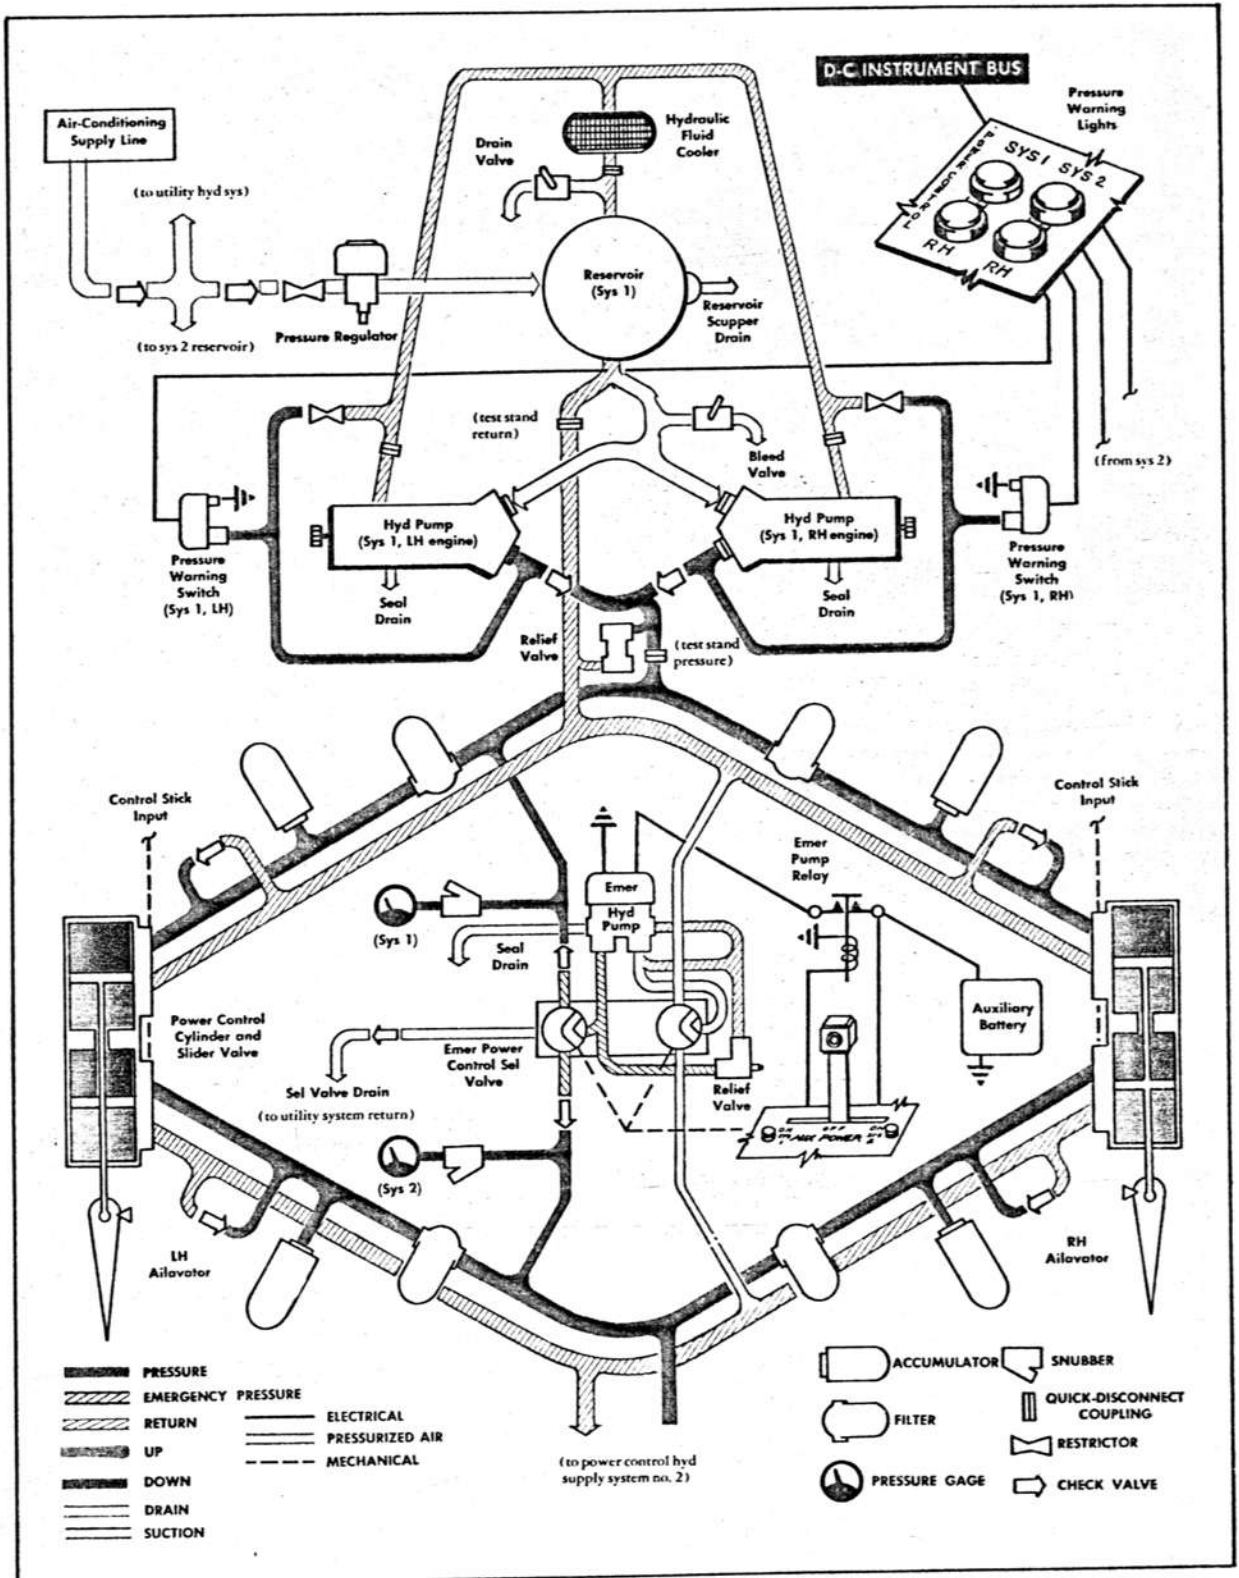

Figure 1-15. Power Control Hydraulic System Schematic
**GENERAL.** (See figure 1-15.) Hydraulic pressure (3,000 psi) for ailerator control is supplied by two independent hydraulic systems (Power Control Systems No. 1 and No. 2). The two systems function simultaneously under normal conditions. Dual-engine, dual-pump, and dual-cylinder safety is obtained by each system having two pumps, one on each engine, and each ailerator control cylinder having two tandem chambers with each chamber connected to one of the two power control systems. If one engine fails, the other engine will keep both power control systems pressurized. If both engines fail, the windmilling of the engines, at airspeeds above 200 knots, will continue to drive the main hydraulic pumps. The ailerator power control systems are equipped with an emergency pump which receives power from a special battery. The battery is kept charged during normal flight and it will operate the emergency pump for 3 minutes. The emergency pump should be used for an emergency